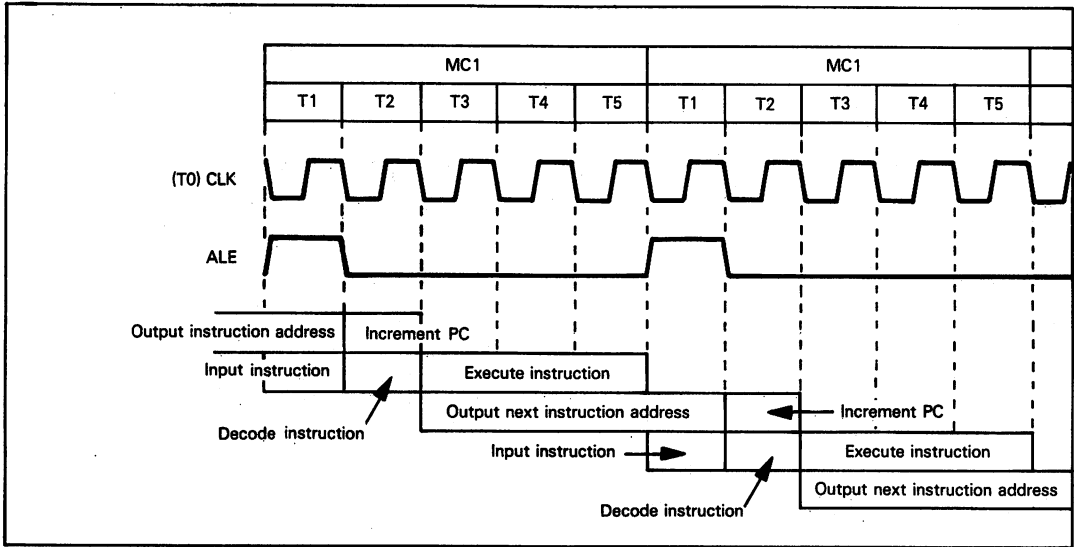

Figure 6-6. Execution of 8048 Single Machine Cycle Instructions without any External Access
**Figure 6-6 illustrates timing for the simplest case — execution of a single machine cycle in-struction accessing internal program or data memory only.** The only signal change seen beyond the microcomputer chip itself is the ALE pulse — and the CLK signal, if you elect to output it via T0. The events which occur during each clock period are illustrated in Figure 6-6; but remember, these operations are internal to the microcomputer. They are beyond your access or control.
Figure 6-6 also illustrates timing for instructions that execute in two machine cycles, but access only program and/or data memory internal to the microcomputer chip. Once again external logic sees ALE, and optionally CLK.